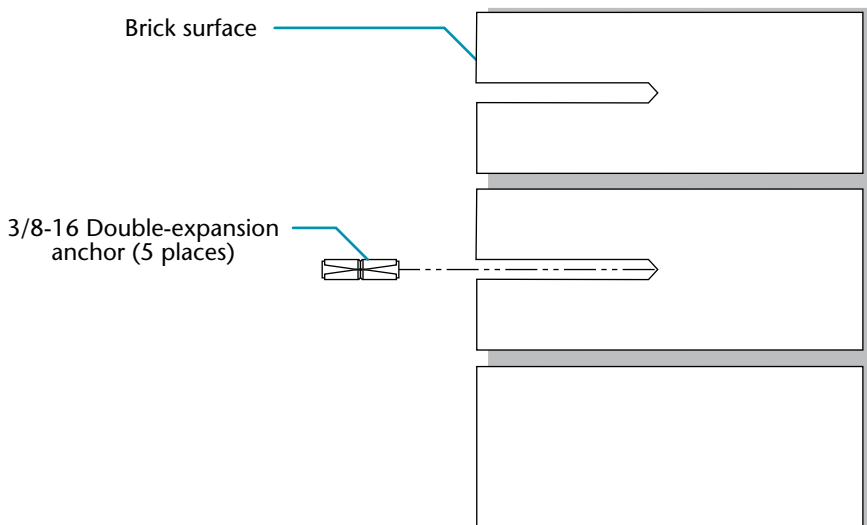

Figure 4-46. Installing an expansion anchor
8. Clean out the hole and insert a 3/8-16 double-expansion anchor. The anchor should fit snugly, so you may have to use a hammer to gently tap the anchor until it is flush with the brick surface (see figure 4-46).